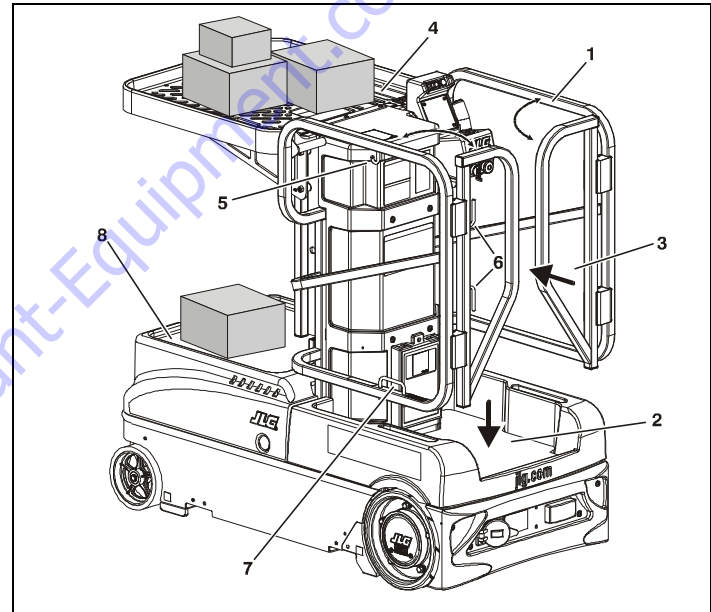

Figure 3-11. Standard Platform
Attach fall restraint lanyard to lanyard anchorage point on lower platform railing. (Refer to item 7 on Figure 3-11.)